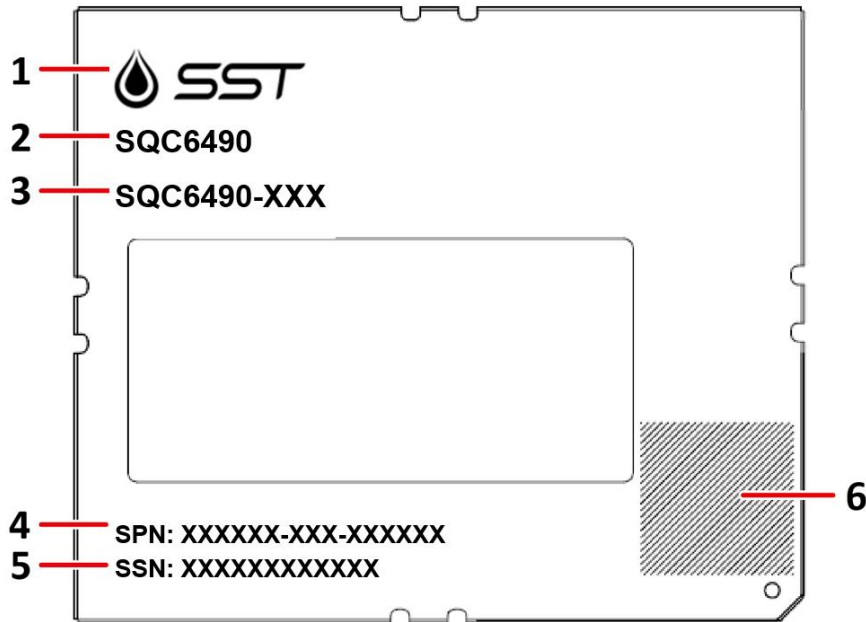

Figure 1-5. Laser Marking of SQC6490 SOM
- Figure 1-5 is for reference only and may vary with the specific module.